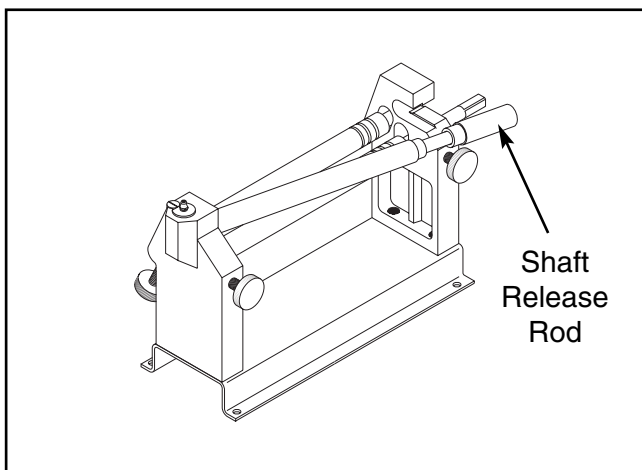

Figure 2.
4. If you are only performing partial rolls and need to remove the material, slide out release rod shown in **Figure 2** and pull the fixed shaft forward. You can now remove the material from the slip roll.